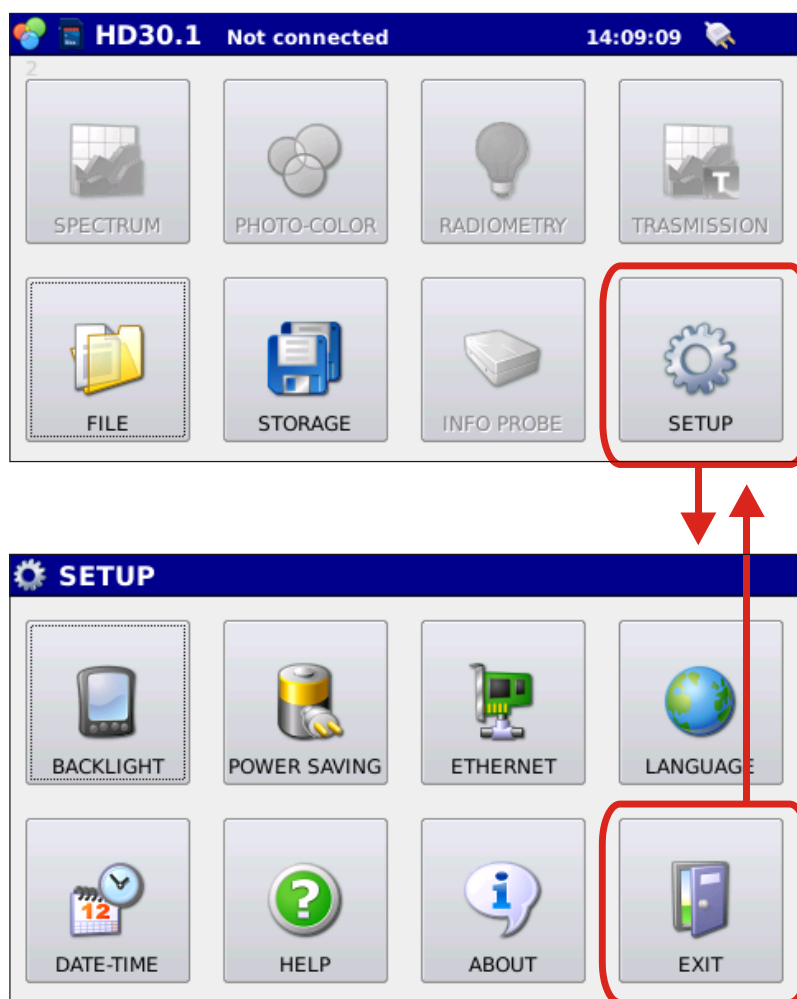

Fig. 6.1: HD30.1 configuration page
Press  in the main menu to access the HD30.1 configuration page (fig. 6.1), press  to exit the SETUP menu.
6.8  **EXIT.** Pressing Exit makes you return to main menu (Fig. 6.1)